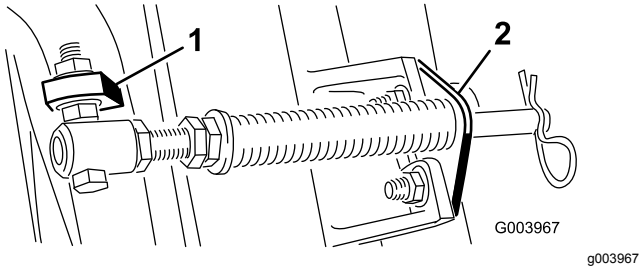

Figure 5
**Note:** Position the bolt head to the outer side of the tab as shown in Figure 5.
- D. Mount the rod bracket to the cutting-unit tabs with the carriage bolts and nuts (Figure 5).